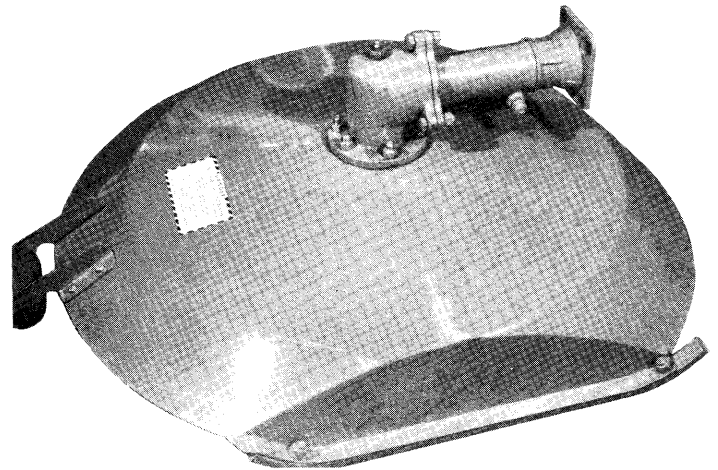

Fig. 4
3. Set the drive on the deck. Bolt the drive in place using the 6 bolts (item 16), flat washers (item 15), and nuts (item 11). The bolts must be inserted from under the deck. See Fig. 4